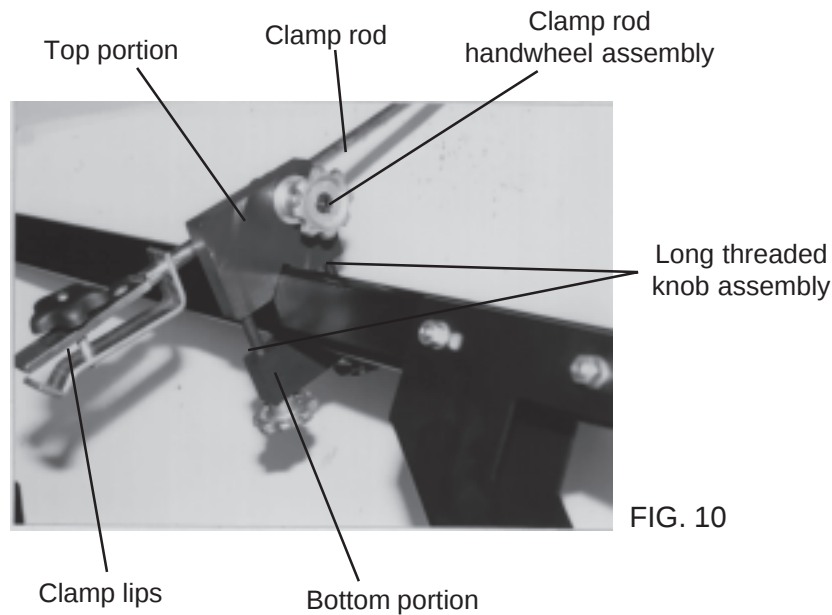

FIG. 10
Hold the bottom portion of the overhead clamp in place as shown in FIG. 10 & 11, and attach the top portion by using the four (4) 3/8-16 x 3-1/4" long threaded knob assemblies. Assemble the clamp's lips onto the end of the clamp rod. Then mount the clamp rods through clamp rod handwheel assembly.